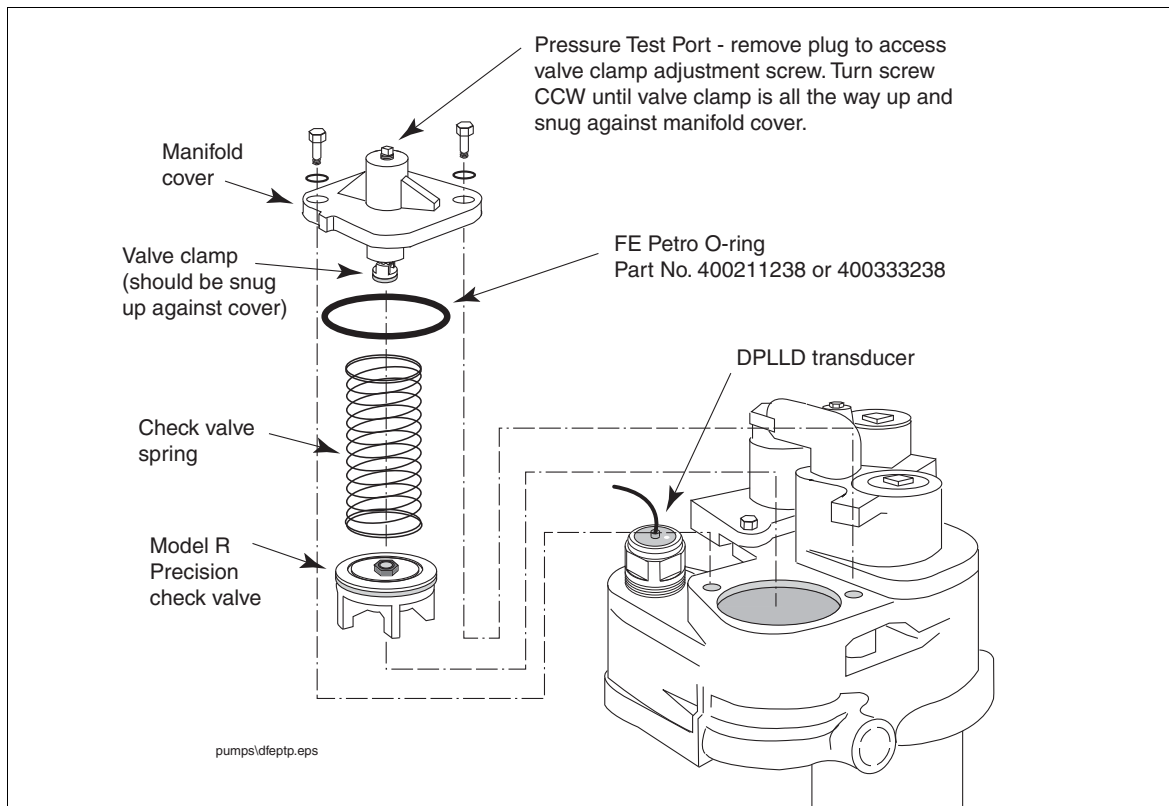

Figure 11. Location of DPLLD transducer and model R precision check valve in FE Petro pump
Install the DPLLD transducer into the 2" NPT port as shown in Figure 11.
5. For DPLLD operation there must be a FE Petro model R precision check valve in the pump, If necessary, replace the current check valve with a model R precision check valve (ref. Figure 11).